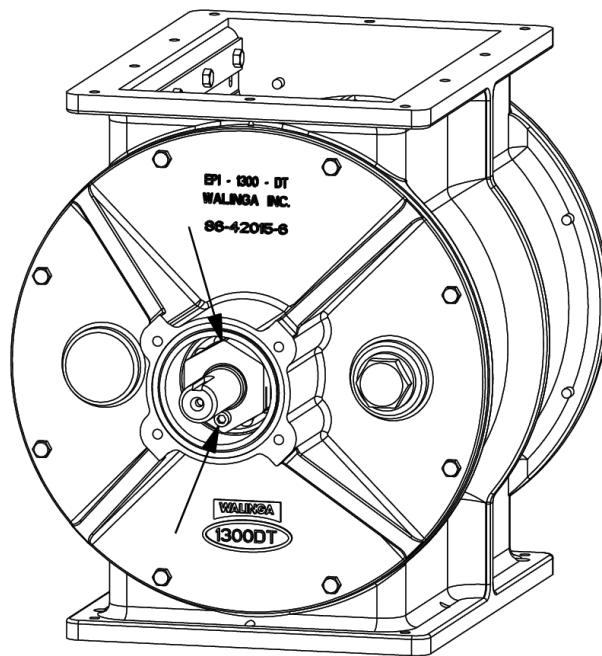

Figure 7-6: Removal of set screw and lock nut
19. Install the lock nut onto the shaft, reference **Figure 7-6**, and tighten to the required torque as specified in **Section 8: Specifications**.
20. Install the set screw into the lock nut, reference **Figure 7-6**, and tighten to the required torque as specified in **Section 8: Specifications**.
- a. Loosen and remove the lock nut and set screw from the rotor shaft. Reference **Figure 7-6**.